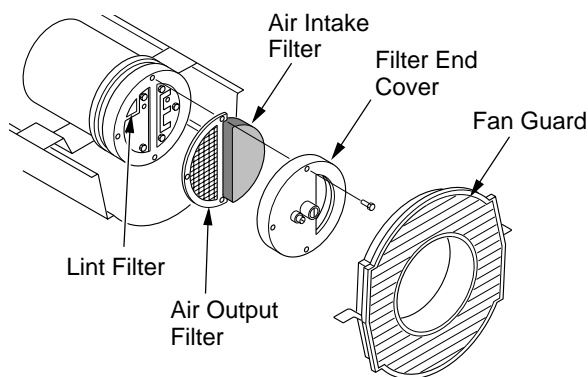

Figure 11 - Air Output, Air Intake, and Lint Filters, 40/55T/70T Models
2. Remove filter end cover screws using 5/16" nut-driver. See Figure 11 or 12.